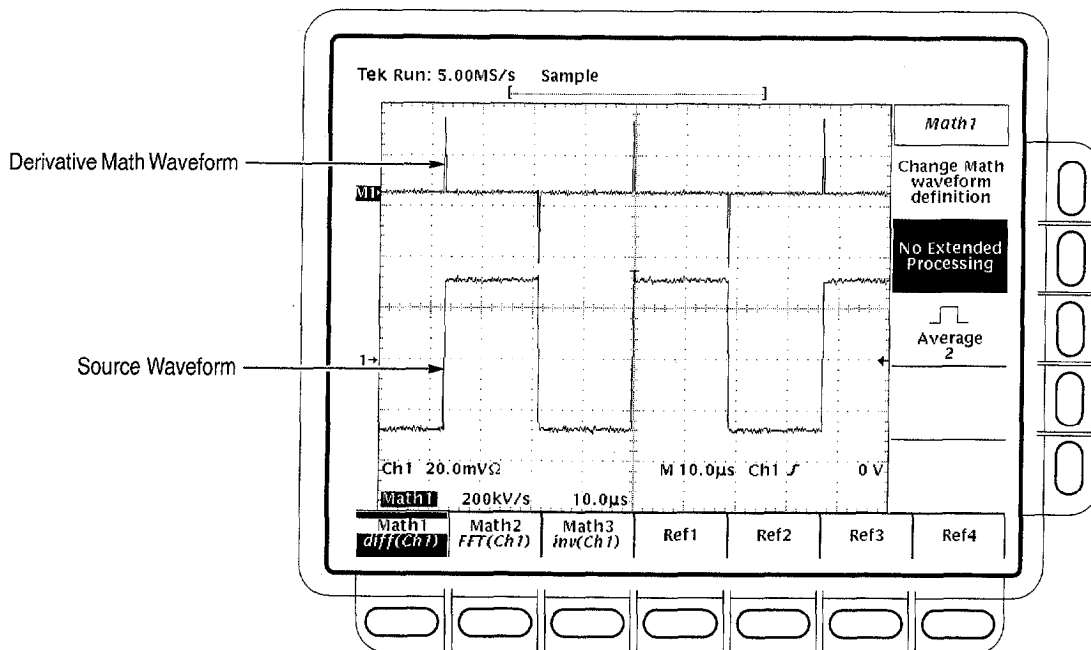

Figure 3-105: Derivative Math Waveform
3. Press **MORE** → **Math1**, **Math2**, or **Math3** (main) → **Change Math Definition** (side) → **Single Wfm Math** (main). (See Figure 3-105).